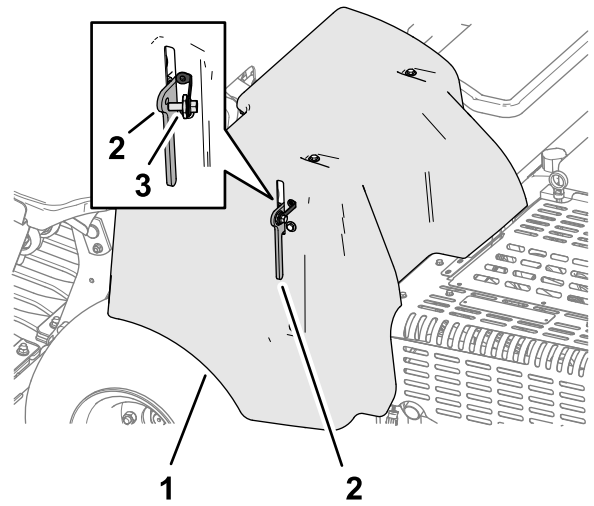

Figure 141
1. If your machine has the CE belt-cover latch lanyard, loosen the lanyard bolt until it separates from the cover latch (Figure 141).